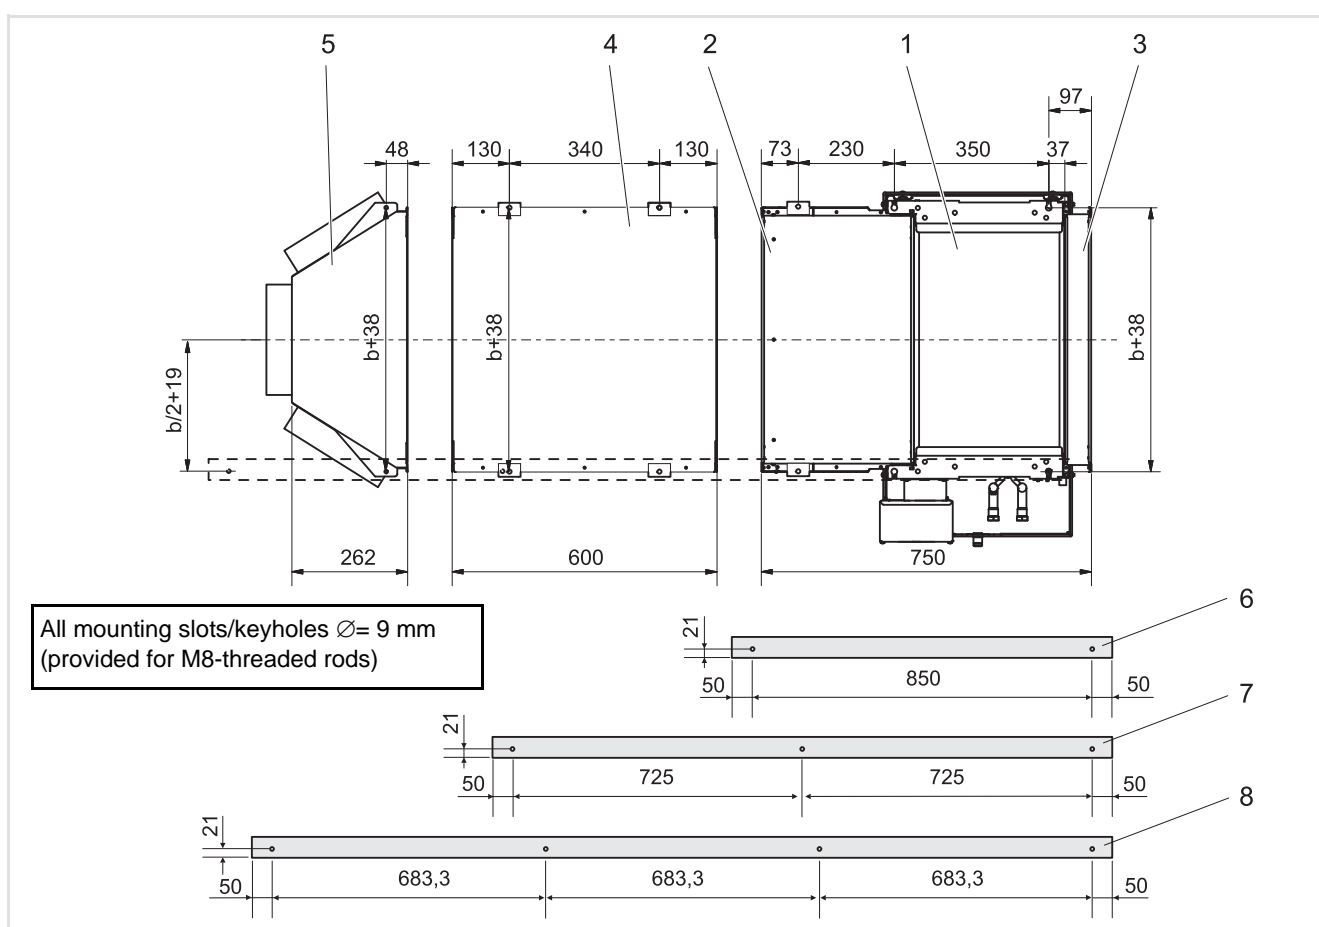

Fig. 4-8: Keyholes for mounting suspension rail
Hole spacing of the assembly mountings and suspension rails, see Fig. 4-8.
- Refer to Fig. 4-8 for the position of the mounting slots/keyholes for the suspension rail and threaded rods.